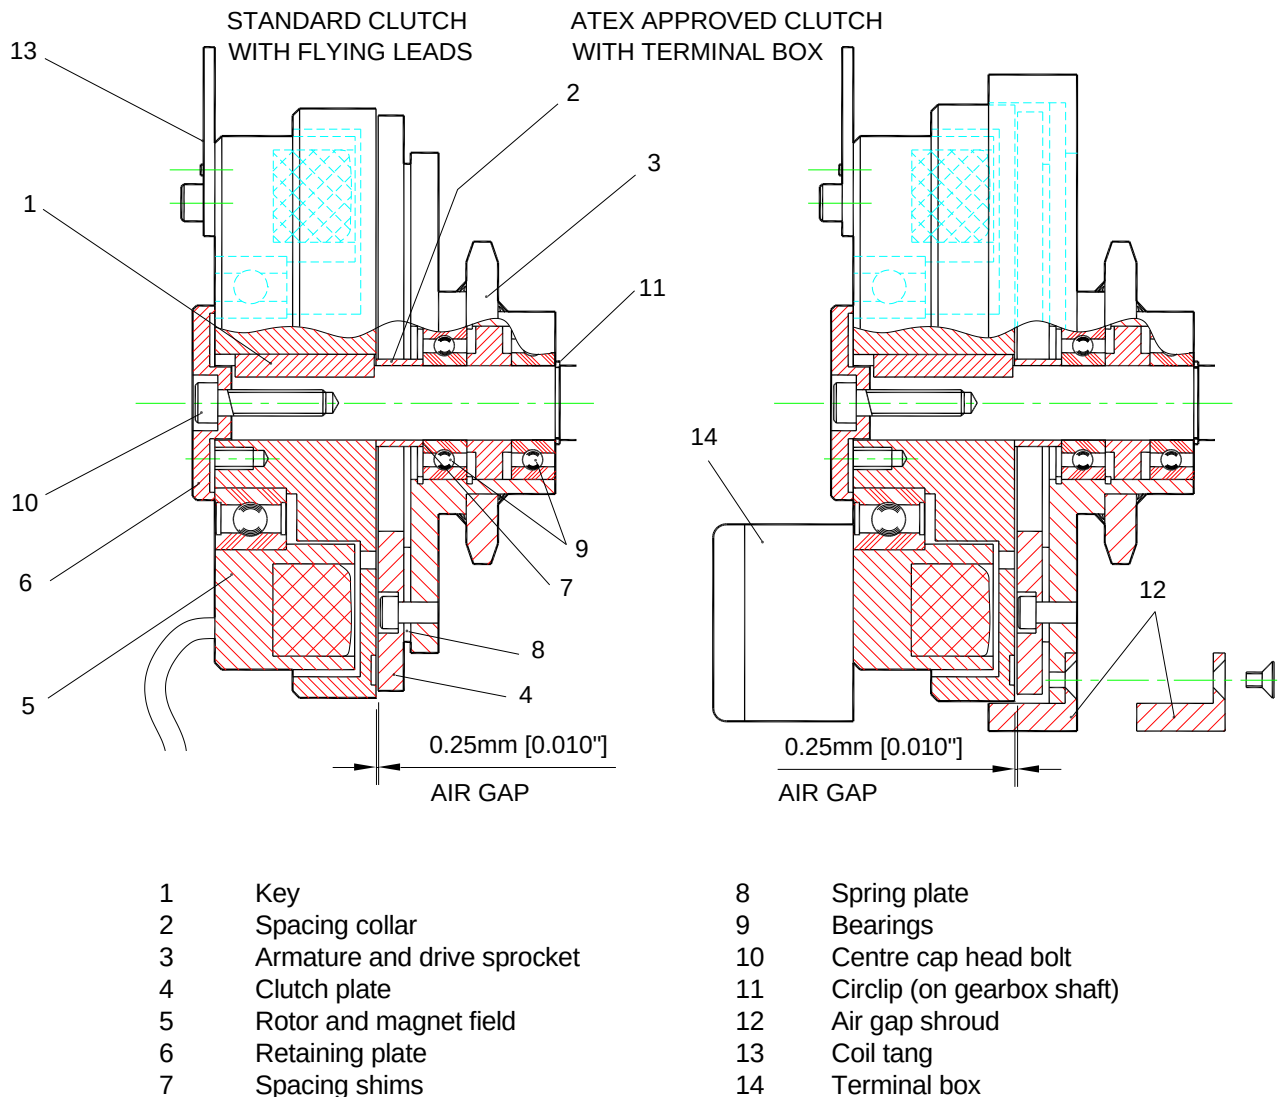

Figure 7 – Electromagnetic clutch
4.5.2.8 Using a feeler gauge, check the air gap as shown in figure 7. i.e. 0.25mm [0.010"]. If an ATEX type clutch is fitted it will be necessary to slide back the shroud by removing 3 countersunk head screws in order to gain access to the air gap. If the gap is incorrect it will be necessary to remove the retaining cap head screw to gain access to the spacer collar and shims, if fitted. To reduce the air gap remove shims or carefully/squarely trim the spacer collar to shorten. To increase the air gap add shims to the assembly.